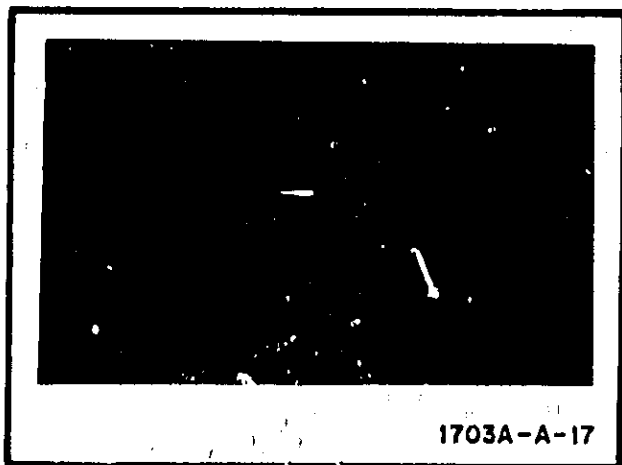

Figure 5-20. Tail on Spot.
c. Observe tail (figure 5-20) on spot. Tail should be equal to or less than 1 div (minimum persistence) anywhere on CRT.